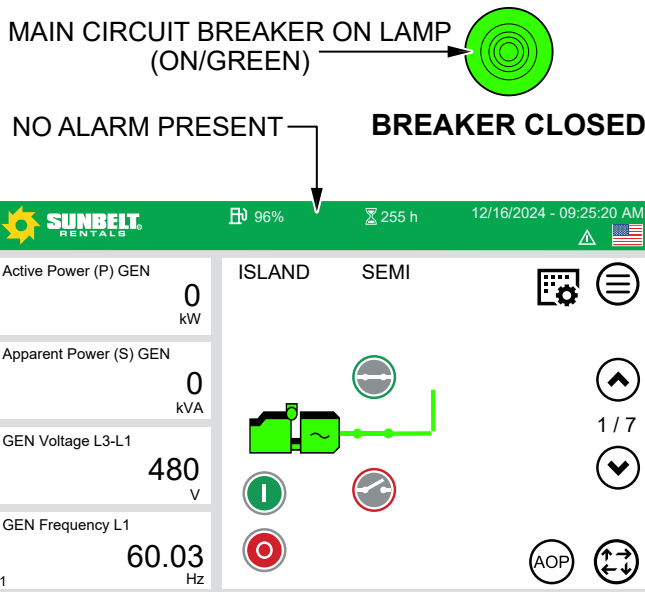

Figure 7. Circuit Breaker Closed
- B. If the circuit breaker closes normally and no alarm is present (Figure 7), the **undervoltage release has not been installed. Continue on to the next section.**